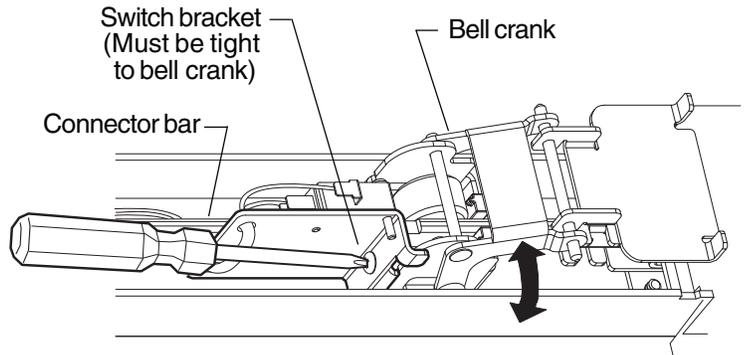

Figure 4
- 4** Screw RX switch bracket onto device as shown (Figure 4).